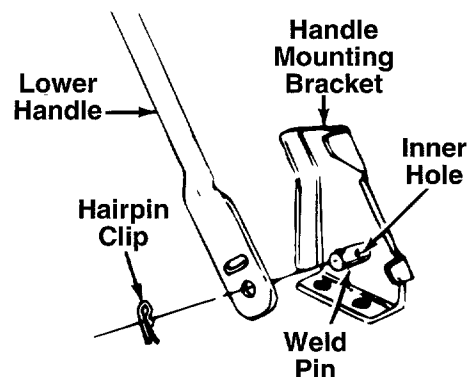

FIGURE 2.
- Remove the hairpin clips from the outer hole in the weld pins on the handle mounting brackets. Place the hairpin clips in the inner hole. See figure 2.